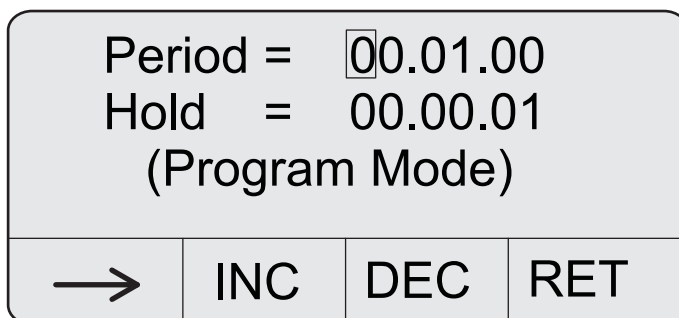

Figure 14 Period and hold screen
2. Press 2 (NXT) to display the Period and Hold screen (refer to Figure 14).